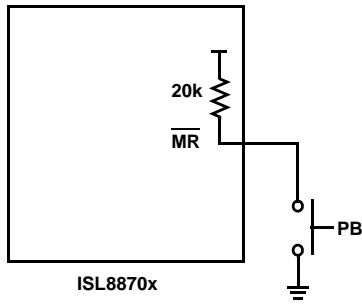

FIGURE 4. CONNECTING A MANUAL RESET PUSH-BUTTON
The manual-reset input (MR) allows the user to trigger a reset by using a push-button switch. The MR input is an active low debounced input. By connecting a push-button directly from MR to ground, the designer adds manual system reset capability (see Figure 4). Reset is asserted if the MR pin is pulled low to less than 100mV for the minimum MR pulse width or longer while the push-button is closed.